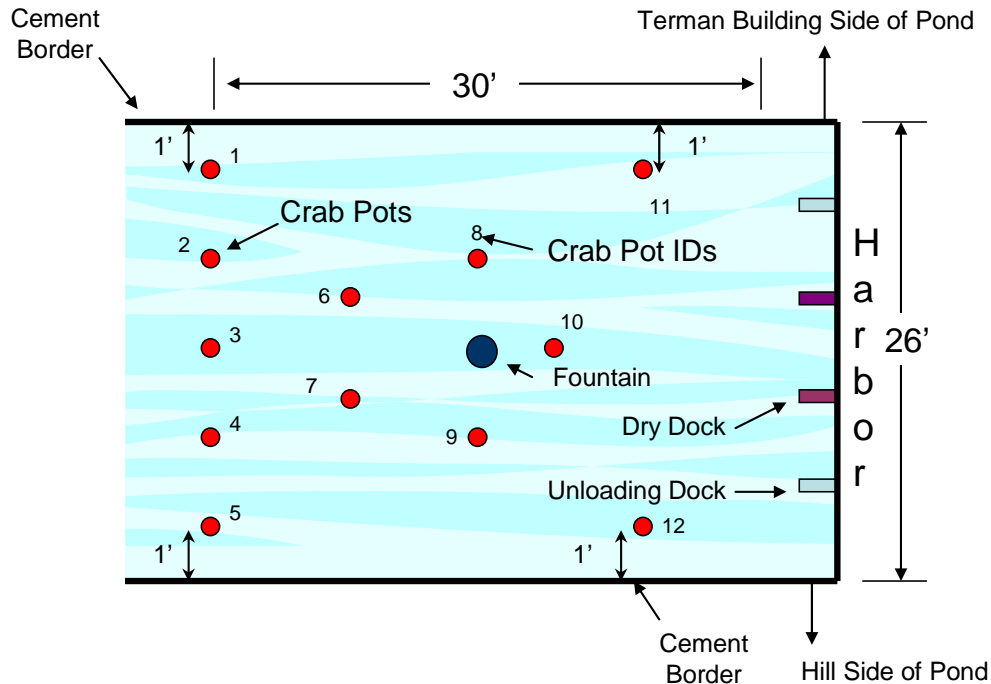

Figure 1: Field layout and dimensions
- The Field is comprised of a portion of the soon-to-be-defunct Terman Pond, initially measuring approximately 26 ft. wide by 30 ft. long (see Figure 1). One fountain spout will be located at the approximate center of the Field. Every effort will be made to ensure that the fountain will be off during grading sessions and public presentations.
- The crab pots will be floating on the surface, tethered to the bottom of the pond, at the approximate positions shown in Fig. 1.